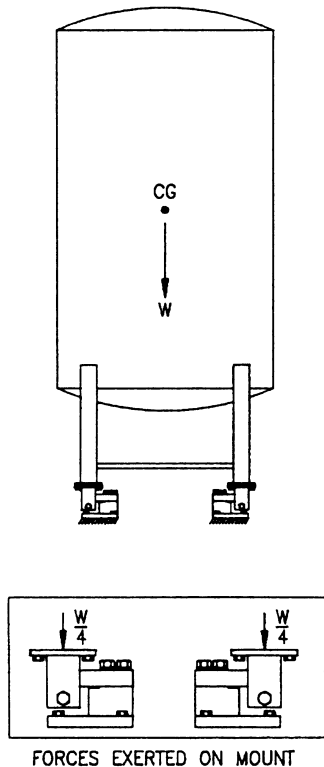

Figure 22-1.
In general, these forces act horizontally at the center of gravity (CG) of the weigh vessel. Figure 22-1 illustrates a four-legged vertical cylindrical vessel and the forces acting on it in the absence of wind or seismic forces.  $W$  is the vessel's weight (an empty and full vessel should be considered separately, as either one may be the limiting case), and it acts through the vessel's center of gravity. Assuming that the four legs are arranged symmetrically, then each leg will exert a force of  $1/4W$  on each mount.